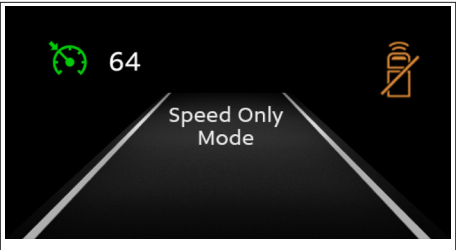

Figure 23 – POST Test Failed
In the special case where the radar sensor is blocked, the POST test will not be able to verify normal system operation and, after two (2) minutes driving under this condition, will set an active Diagnostic Trouble Code (DTC) rendering the functionality of the Fusion system reduced or inoperable. Two (2) minutes under this condition will lead to a DTC, but regular vehicle cruise control will remain available to you. *Figure 23* shows a message you may see on the integrated display when the POST test has failed.